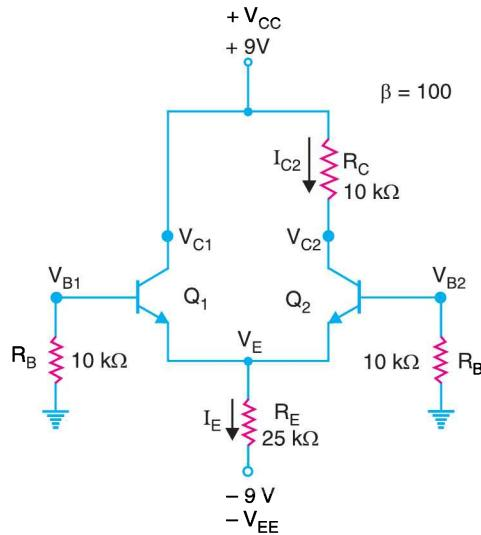

Fig. 25.98
4. Find bias voltages and currents for the differential amplifier circuit in Fig. 25.98.